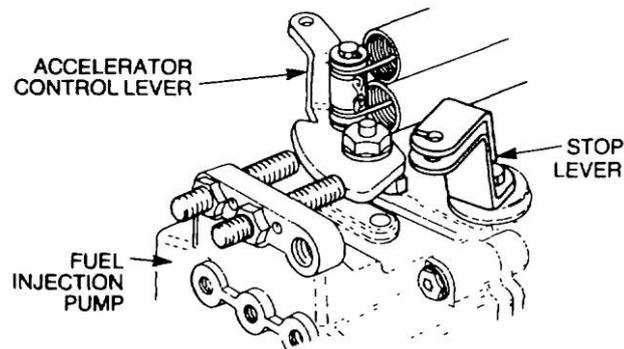

Figure 8 Removal of the Engine Stop Cable
- p. Disconnect the engine stop cable end from the injection pump stop lever (Figure 8).